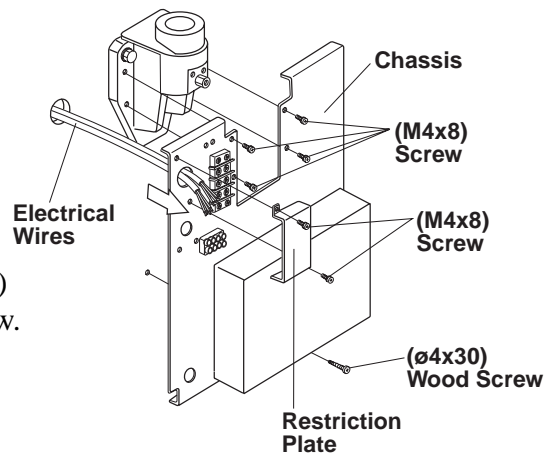

Fig.3-3 Attaching Chassis to Wall Plate
1. Remove the restriction plate over the terminal blocks by taking out two (M 4 x 8mm) screws. (Fig.3-3)
2. Route electrical interconnecting wires through the access hole on chassis and mount the chassis on the arm mounting bracket with four (M4 x 8mm) screws and on the wall with one ( $\phi 4 \times 30$ mm) screw. (Fig.3-3)